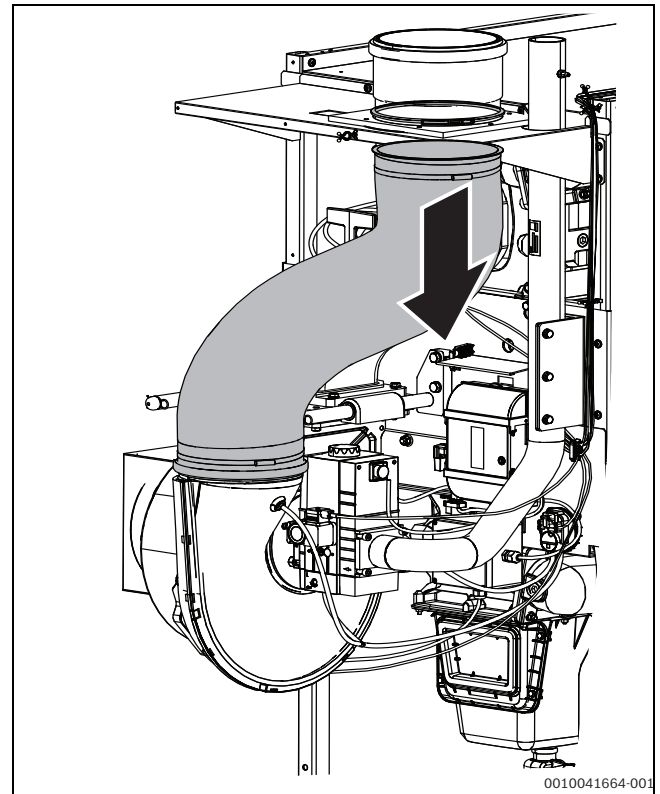

Fig. 4 Remove the air hose to the top
- ▶ Open the hose clamp on the air hose at the top and remove the air hose (→ Fig. 4).